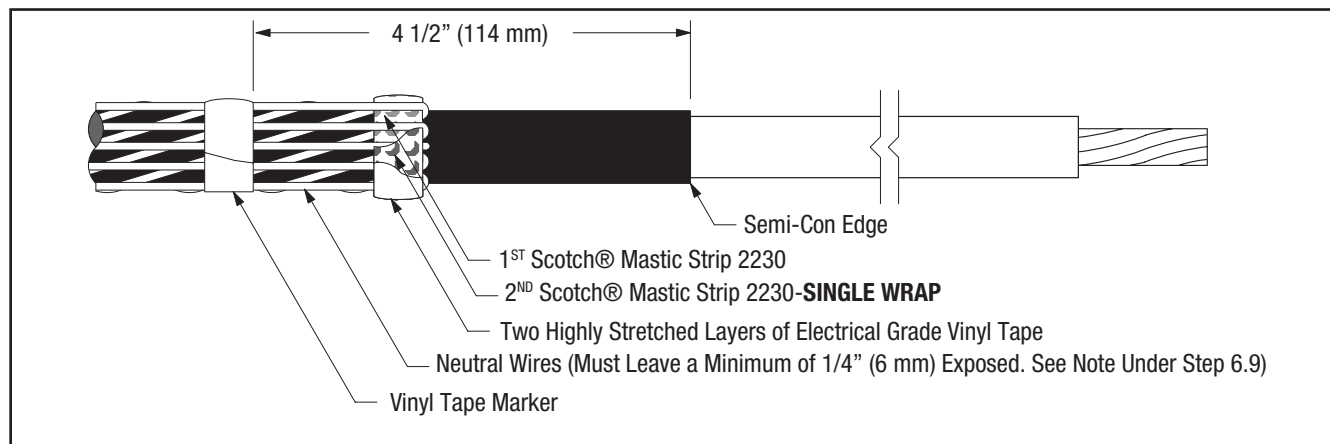

Figure 8
6.7 Bend neutral wires back over applied sealing mastic and secure to cable **4 1/2" (114 mm)** from cable semi-con edge using vinyl tape (see NOTE and Figure 8).
6.8 Select second Scotch® Mastic Strip 2230 from kit and remove white release liners. Apply a second **SINGLE WRAP** of mastic over the neutral wires and previously applied mastic (Figure 8). Cut off excess.
6.9 Compress neutral wires into mastic by over-wrapping seal strips with two highly stretched layers of electrical grade vinyl tape (Figure 8). **Be sure to cover all exposed mastic.**